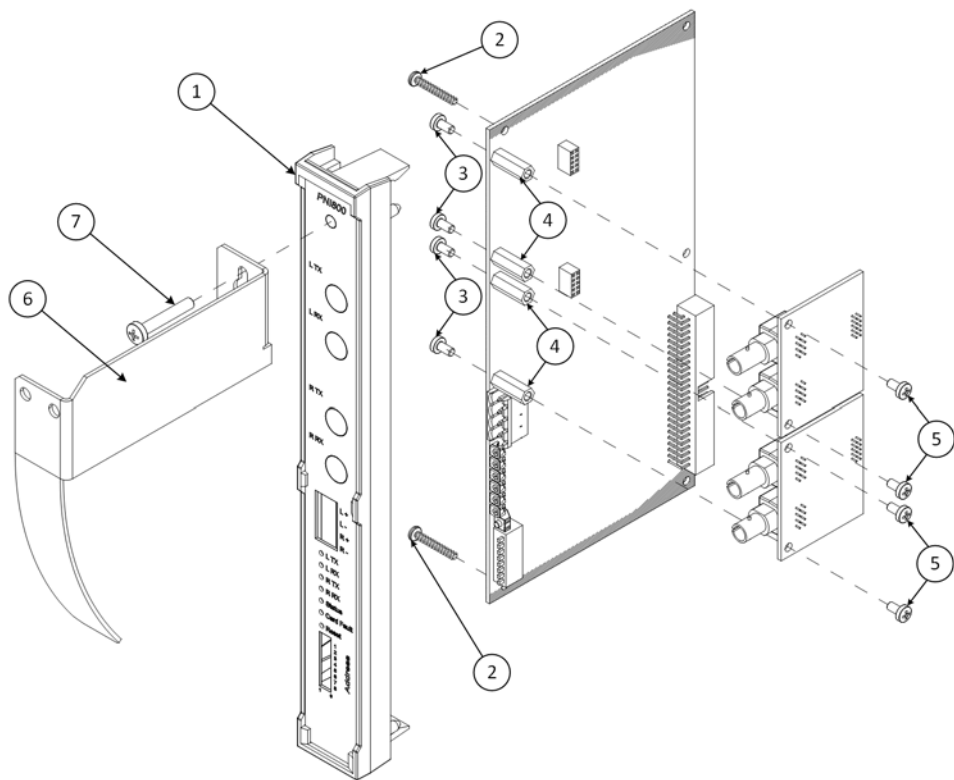

Fig. 4: FOM800 assembly
To assemble the FOM800, refer to Fig. 4 and complete these steps:
- 1 Detach the front panel of the slot card by removing the screws (refer to item 2 in Fig. 4).
- 3 Remove the breakout for the bolt (item 7) in the front panel.
- 4 Place the screws and the supplied nylon washers (refer to item 3 in Fig. 4) into the PNI800 holes and screw them into the metal stands (item 4). Secure them firmly. Each FOM800 requires two stands.
- 5 Fit the FOM800 to the board and secure with screws (item 5). The fibre optic connectors of the FOM800 modules are secured to the front panel with the nuts and the lock washers provided.